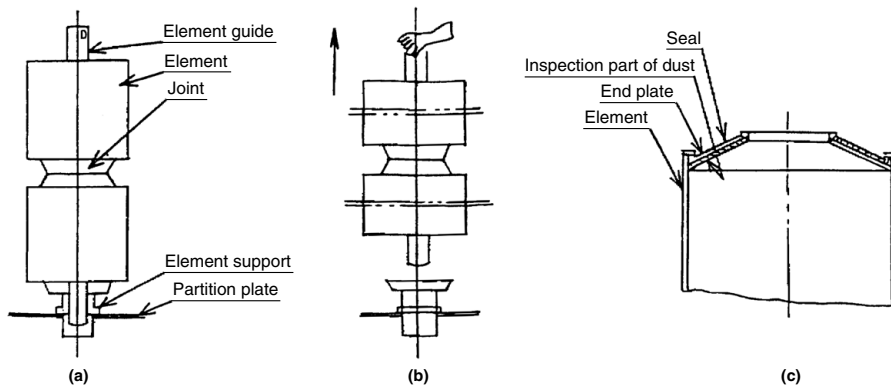

Fig. 1
After the element holder is taken out, if the element guide is taken out in such a manner as shown in Fig. 1, the element and joint can be taken out together.
- 5-1. In the case of micro mesh element (cylindrical or pleat type (spherical seal is not used)) and sintered element, be sure to remove dust completely between end plate and seal completely. (Refer to Fig. 1 (c))
\* Incidentally, when the number of arrangements is many and the number of piling of elements is 3-4 stages, the one in which element and joint are set in the element guide can be set at element support. [Refer to Fig. 1 for the details: Procedure opposite to that for removal]